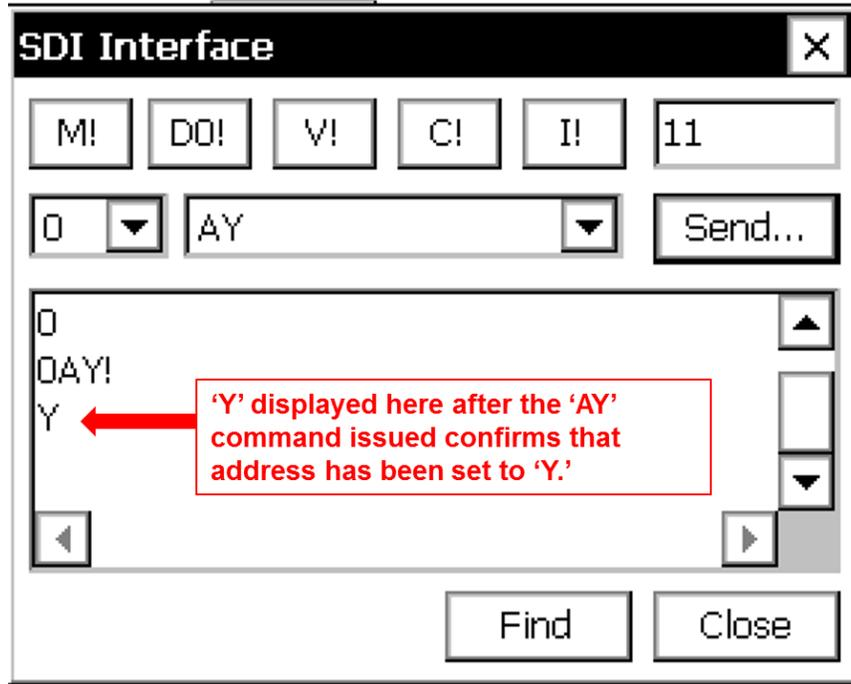

Figure 3-23. Value 'Y' displayed after AY command issued.
3. If the sensor's address is successfully changed to 'Y,' the value will be displayed after the **AY** command is issued, as shown on fig. 3-23.
NOTE: In most cases, by the time a WaterLog[®] sensor and DCP are sent to the field, either CO-OPS CIL or SIL has configured all DCP setups. Figure 3-23 illustrates the final graphical setup for a WaterLog[®] sensor that was previously configured by CIL or SIL. However, if the graphical setup must be programmed on the DCP, steps required for the graphical setup for a WaterLog[®] radar sensor can be found in appendix A. If the interface is already configured, the only thing needed to complete the field installation is to start sensor recording and confirm that the sensor is recording and transmitting data. Both steps are described in the following paragraphs.